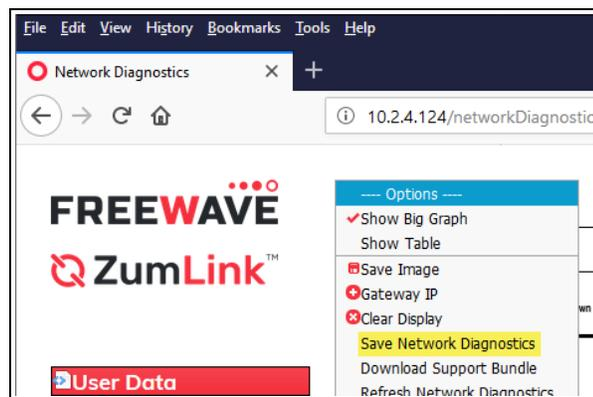

Figure 176: Options list box - Save Network Diagnostics option Selected
- Click the **Options** list box arrow and select the **Save Network Diagnostics** option. Figure 176